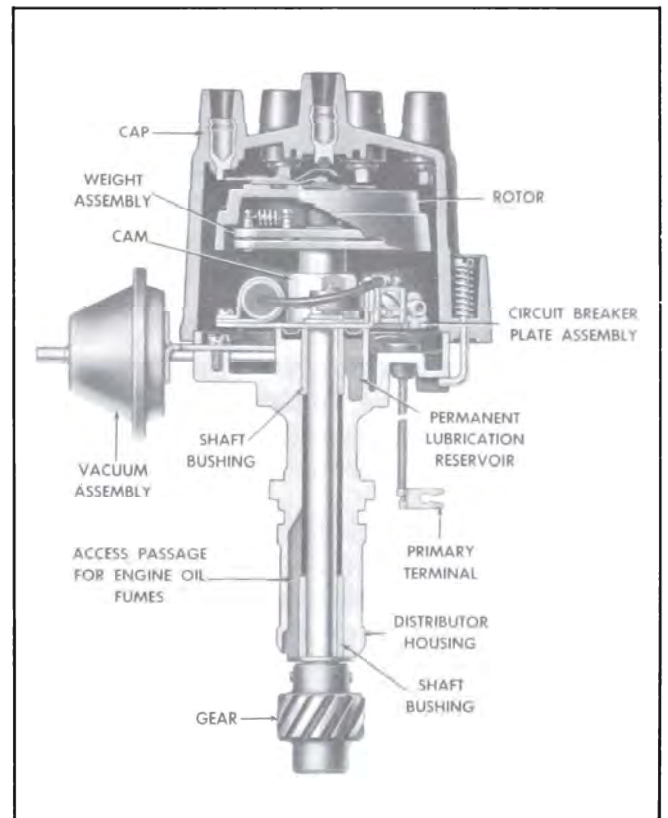

Figure 10-39—Distributor, Sectional View
3. Rotor. If rotor is cracked, spring contact is badly worn, or rotor tip is badly burned, rotor must be replaced. See Figure 10-39.